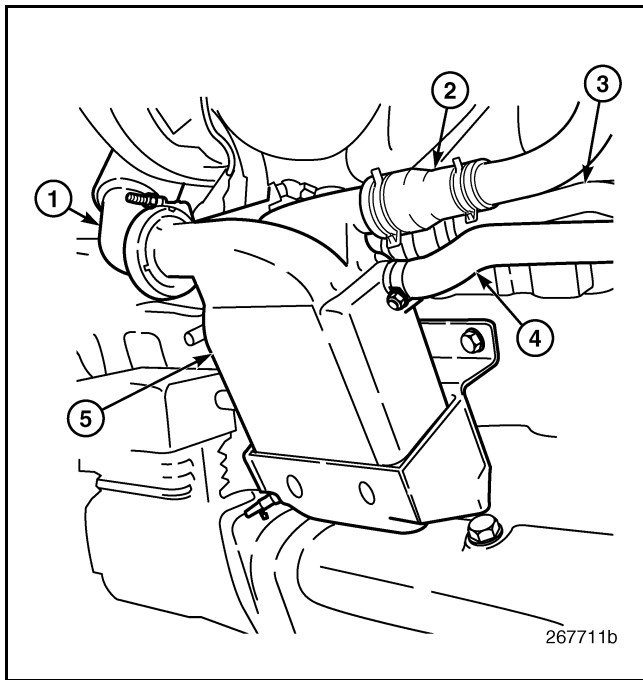

Figure 492 — EGR Cooler, Installed
1. Drain the cooling system in preparation for removal of the EGR cooler. A petcock is located at the lower rear corner of the cooler to drain coolant retained in the cooler (Figure 492).